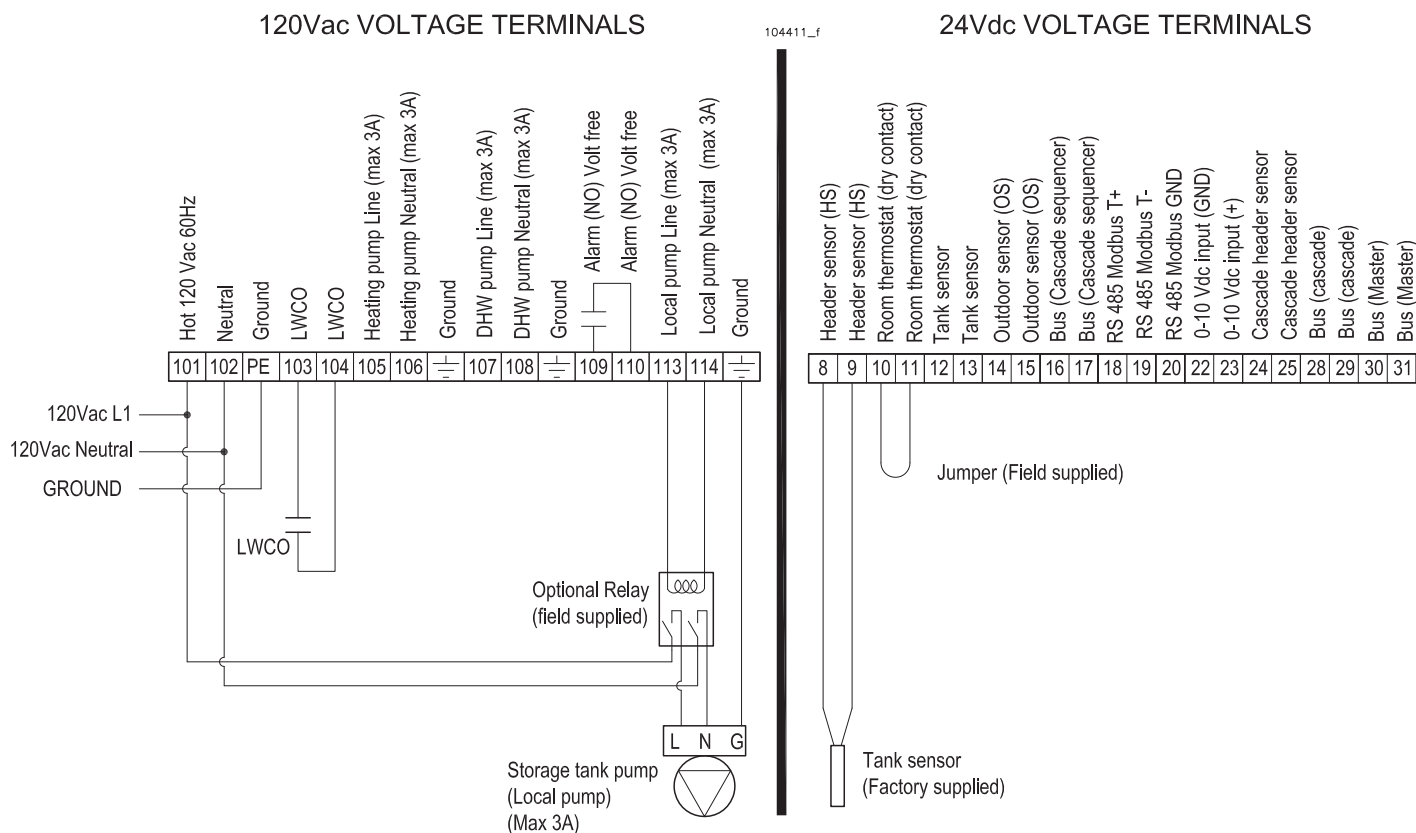

Figure 9-3 - Electrical customer connection for appliance connected to a storage tank
On appliances model 399, 500, 750 and 1000 it is factory supplied the 885IF board that permit installer to drive the unit via a 0-10Vcc input (199 model can be equipped on demand). To do this, you have to connect the Vcc supply between terminals 22 and 23 (see Figure 9-3 or 9-4). Also, parameter 2003 as per Section 15.11 must be set to value of 4.
Install LWCO device as per engineering method. Connect LWCO terminals to 103 and 104 appliance terminals (see Figures 9-3 or 9-4).
- 2.- The storage tank pump (Local pump) must be connected to terminals “113” and “114” (See Figure 9-3) (a field supplied pump relay must be installed if the pump current draw is greater than 3 amps);
- 3.- Remove header sensor present on terminals “8” and “9” of Figure 9-3;
4. The storage tank temperature sensor must be connected to terminals “8” and “9” (See Figure 9-3). The sensor must be placed into the storage tank in a way that can detect the water temperature (Follow the storage tank instruction).